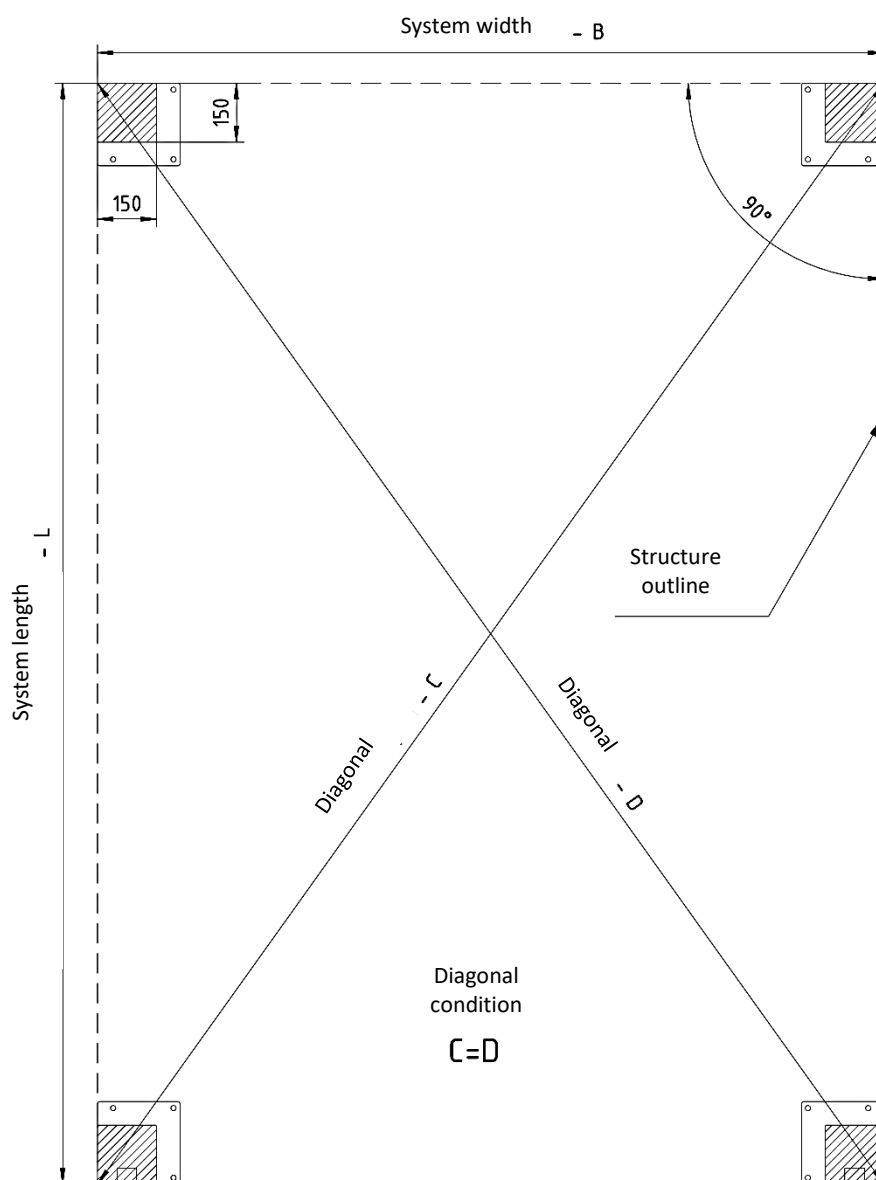

Fig. 5. Example of the determination of the Pergola SB500 structure setting in a corner design.
- Both diagonals, C and D, marked in Fig. 5 must be equal. If they are not, the place of installation of the support structure has been determined incorrectly.